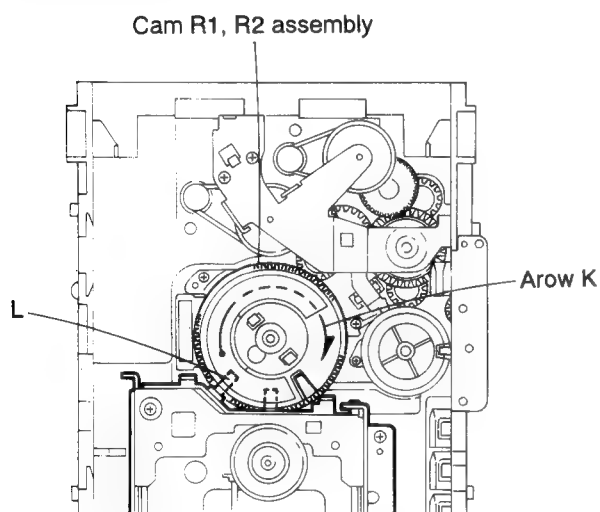

Fig. 2-17
## ■ Removing the CD mechanism (See Figs. 2-17 and 2-18)
1. For dismantling only the CD mechanism without removing the CD mechanism assembly, align the shaft (L) of the CD mechanism assembly to the position shown in Fig. 2-17 while turning the cam R1 and R2 assembly in the arrow direction (K).